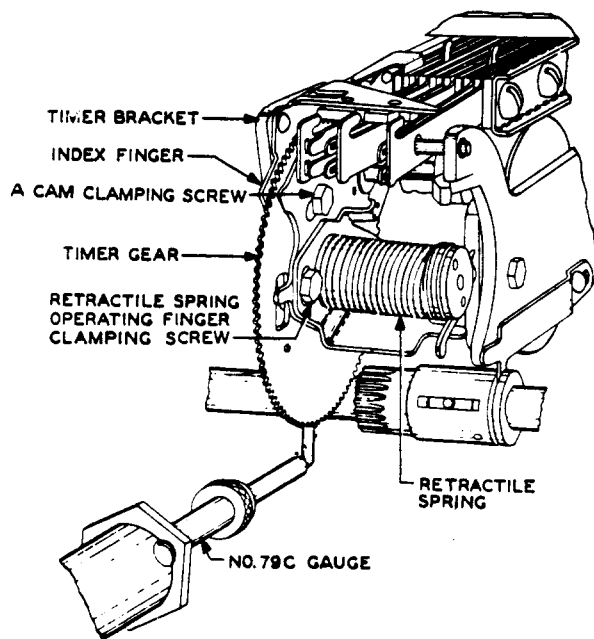

Fig. 17 - Method of Checking Retractable Spring Tension
- Γ To check this requirement, proceed as follows. Rotate the gear one quarter of a revolution to operate the tripping mechanism, thus insuring that the spring tension is at a minimum. Allow the gear to restore against its stop. Then apply the gauge to the bottom of the gear as indicated in Fig. 17. Hold the gauge horizontally and apply pressure gradually toward the rear of the timer
- Γ To check this requirement, proceed as follows. Rotate the gear one quarter of a revolution to operate the tripping mechanism, thus insuring that the spring tension is at a minimum. Allow the gear to restore against its stop then manually rotate the gear to the point where the front end of the pawl rests on the top of the pawl stop at approximately its center. Hold the gear in this position and apply the gauge to the gear as shown in Fig. 17, applying sufficient pressure to prevent the gear from restoring to normal. Gradually reduce the pressure until the gear starts to move toward the normal position. Check that the gauge reading, as the gear starts to move,